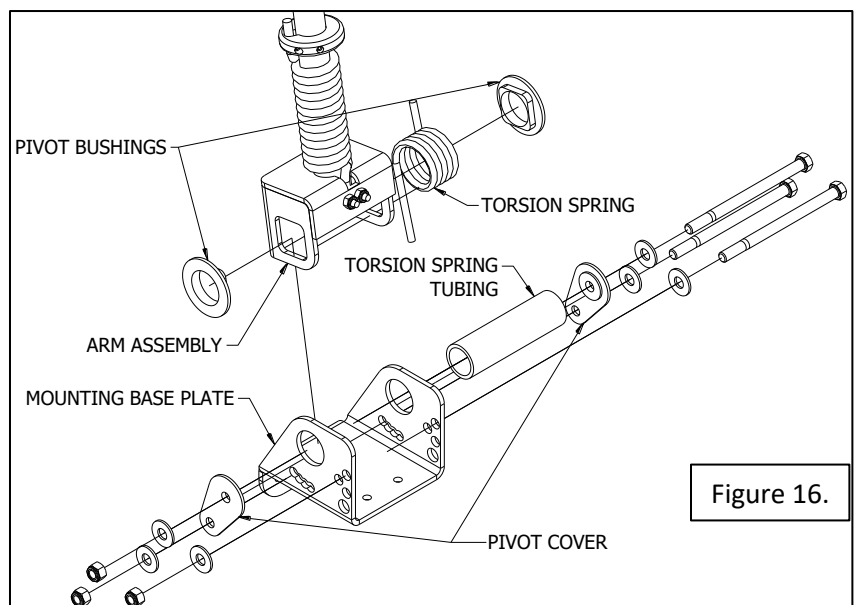

Figure 16.
5. Install a 3/8" bolt in the Middle Tension hole. See Figure 16 & 17. This bolt adds tension to the Torsion Spring and from this location it can be set one hole looser and one hole tighter. **Important: The long end of the Torsion Spring arm needs to be on the front side of the bolt in order to add tension to the arm.** This bolt can be left loose. See Step 6 for instructions for installing the height control bolt.